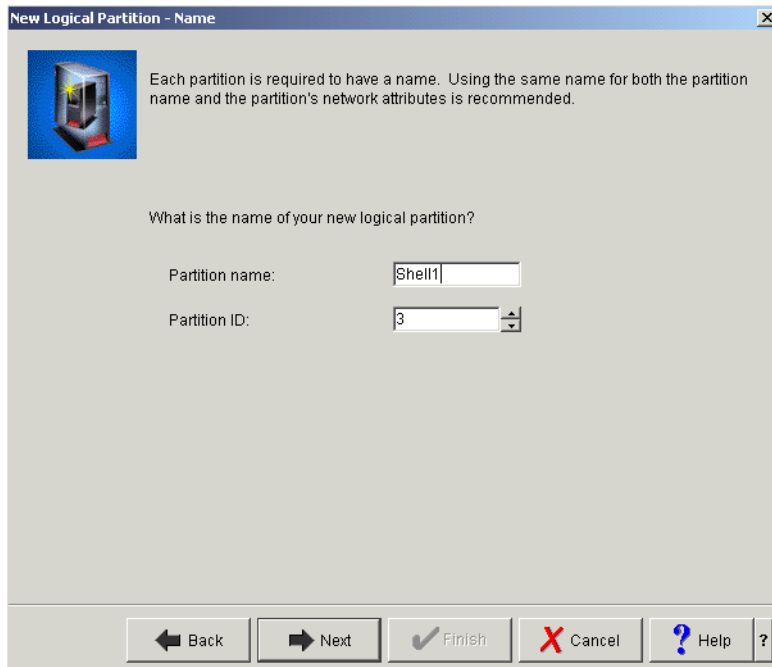

Figure 4-45 New Logical Partition - Name window
7. The New Logical Partition - Name window appears as shown in Figure 4-45. Fill in the Partition name and select a Partition ID. Click **Next**.